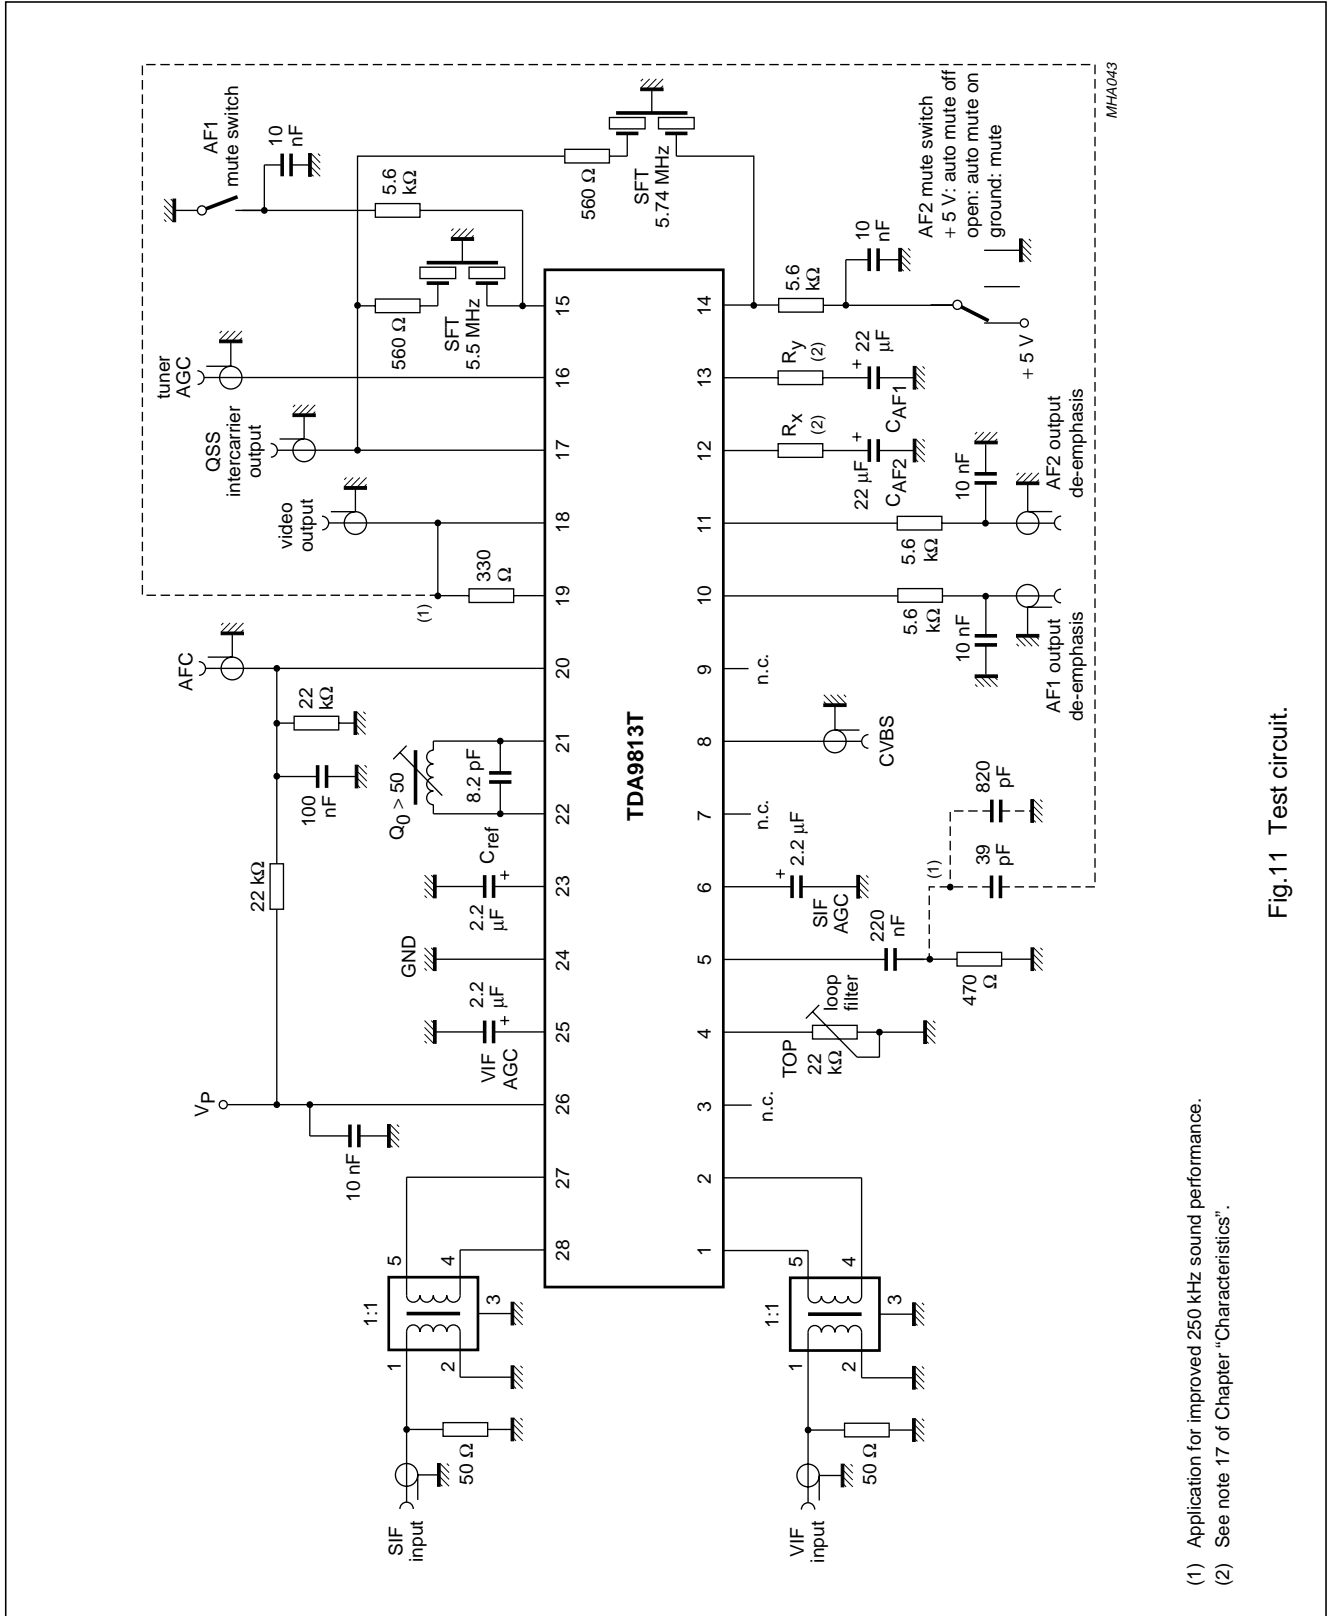

Fig.11 Test circuit.
17. Measured with an FM deviation of 27 kHz the typical AF output signal is 500 mV RMS ($R_x = R_y = 0 \Omega$; see Fig.11). By using $R_x = R_y = 470 \Omega$ the AF output signal is attenuated by 6 dB (250 mV RMS) and adapted to the stereo decoder family TDA9840. For handling an FM deviation of more than 53 kHz the AF output signal has to be reduced by using R_x and R_y in order to avoid clipping (THD < 1.5%). For an FM deviation up to 100 kHz an attenuation of 6 dB is recommended with $R_x = R_y = 470 \Omega$.
19. In the event of activated auto mute state the second FM-PLL oscillator is switched off, if the input signal at pin 14 is missing or too weak (see Fig.11). In the event of switching the second FM-PLL oscillator on by the auto mute stage an increased DC jump is the consequence. It should be noted that noise at pin 14 disables the mute state (at low SIF input signal), but this will not lead to false identification of the stereo decoder family TDA9840.
22. The PC/SC ratio at pins 1 and 2 is calculated as the addition of TV transmitter PC/SC ratio and SAW filter PC/SC ratio. This PC/SC ratio is necessary to achieve the S/N(W) values as noted. A different PC/SC ratio will change these values.